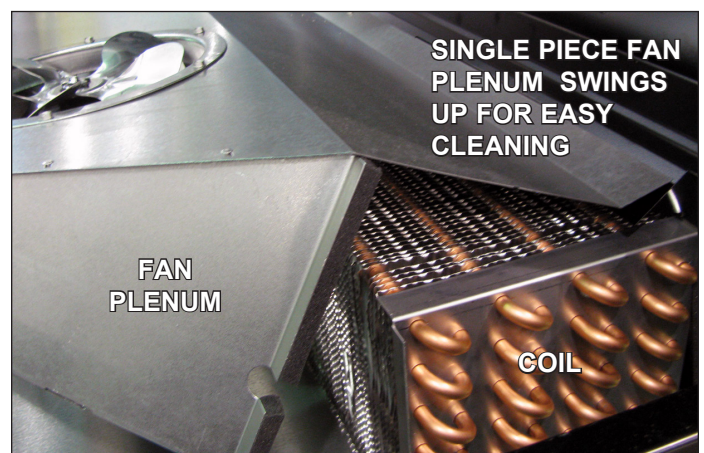

Fig. 24 Single-piece fan plenum and coil cover
- Open the fan plenum to gain access to the coil for cleaning and maintenance (Fig. 24).